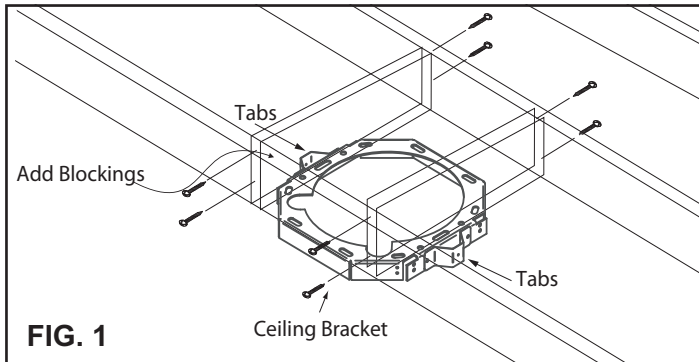

FIG. 1
3. Add and secure wood blockings (minimum 2x4 studs) between ceiling joists for ceiling bracket and telescopic rod couplers if needed. FIG. 1.
The RF remote control is equipped with a magnet on the back for easy storage. The remote may be placed on any magnetic surface such as a refrigerator or the Zephyr remote holder, FIG. 1. The remote holder can be inserted into a standard electrical outlet for easy storage. Note: The remote holder does not charge the RF remote.